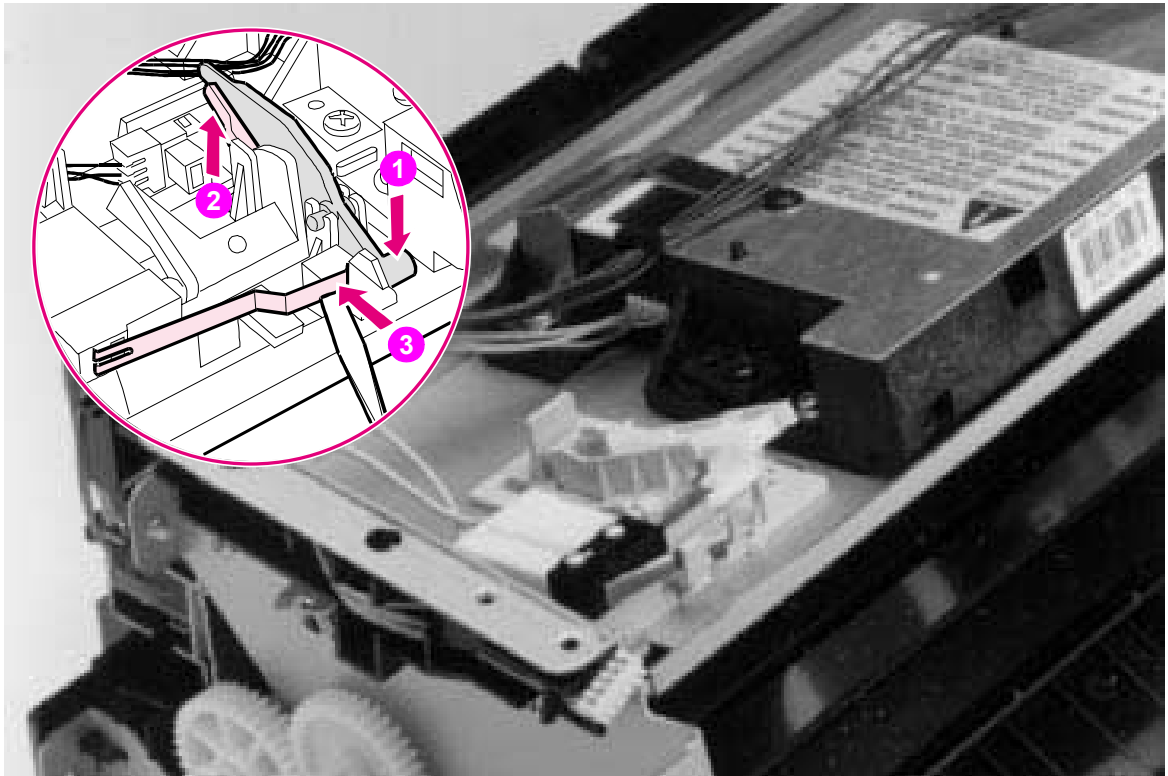

Figure 7-7 Overriding PS204 and SW101
- 2 **For HP LaserJet 5LPrinter only:** Press the Door Open flag down (Figure 7-7, callout 1) and lift the EP Cartridge flag (Figure 7-7, callout 2). These flags are located on top of the printer chassis to the left of the Laser/Scanner assembly.
For HP LaserJet 5L, 6L and 6L Pro Printers: Press SW101 (Figure 7-7, callout 3).
The EP Cartridge flag (Figure 7-7, callout 2) is not present on the HP LaserJet 6L Pro.